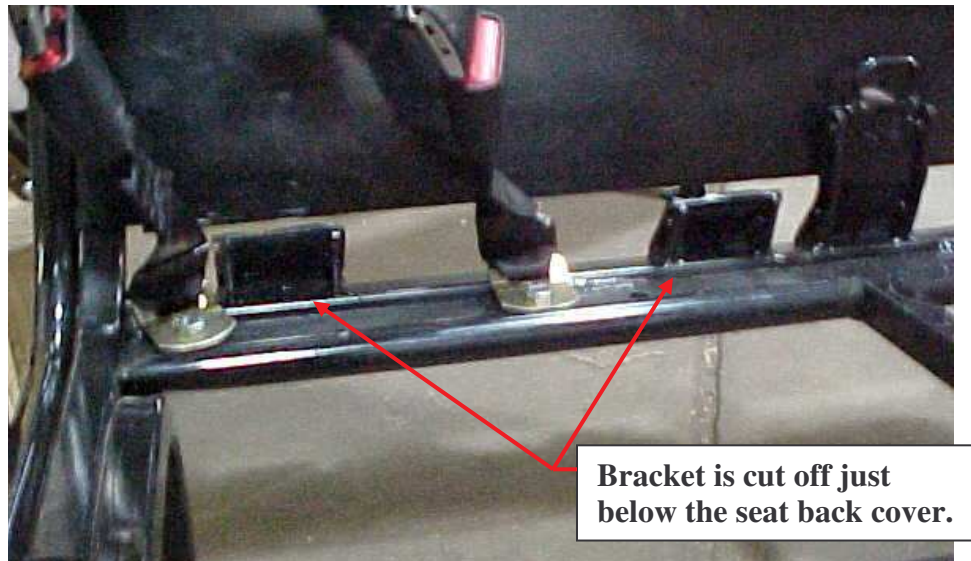

Figure 1. Latch anchor brackets cut-off and belts installed
Remove latch attachments from seats and replace with a special belt system. This procedure does not require the removal of the seat assembly. Refer to Figure 1.
2. Cut the brackets off just below the seat back cover. Refer to Figure 1 below.
- There are two (2) brackets on 26" and 30" seats.
- There are four (4) brackets on 39" seats.